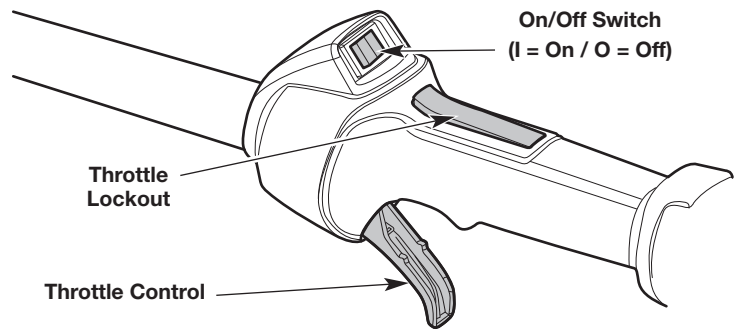

Fig. 10
NOTE: There is no need to turn the unit on. The On/Off switch is in the **On (I)** position at all times (Fig. 10).
NOTE: **DO NOT** squeeze the throttle control until step 8 (Fig. 10).
8. Press and hold the throttle lockout (Fig. 10). Squeeze the throttle control as needed for operation (Fig. 10).
2. Press and hold the On/Off switch in the **Off (O)** position until the engine comes to a complete stop (Fig. 10).